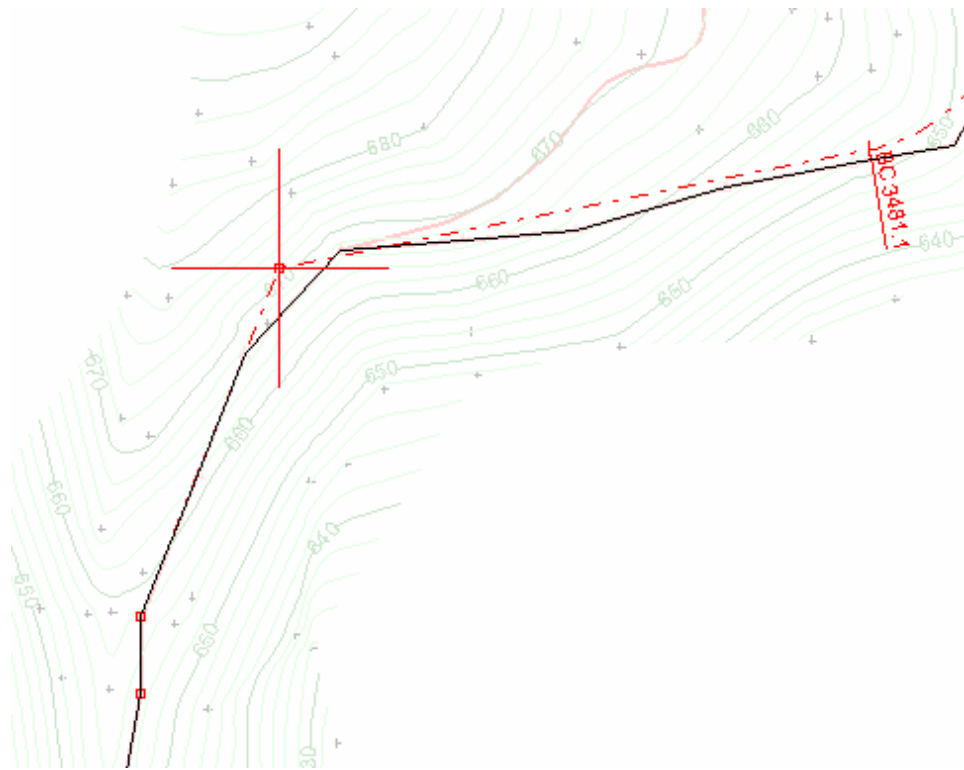

Figure 5.14: Ready for Second Curve
9. Capture the remaining point and move it so that the tangents resemble Figure 5.14.